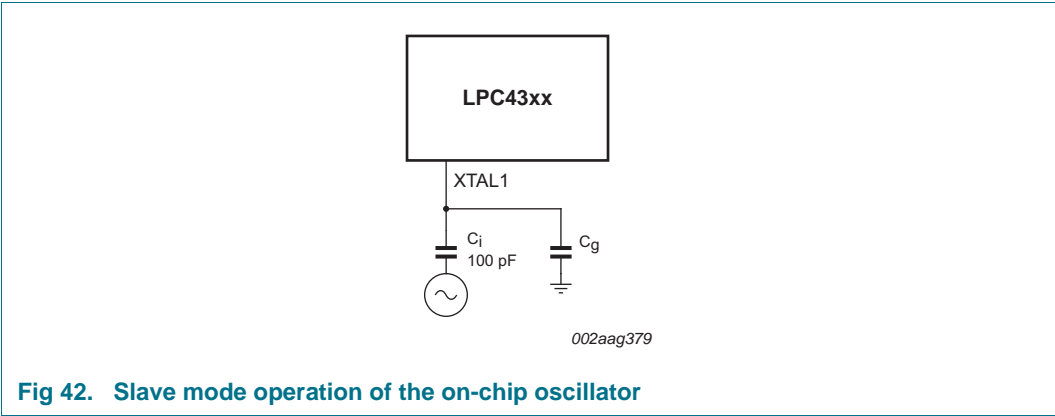

Fig 42. Slave mode operation of the on-chip oscillator
- In slave mode, couple the input clock signal with a capacitor of 100 pF (C_C in Figure 42), with an amplitude of at least 200 mV (RMS). The XTAL2 pin in this configuration can be left unconnected.